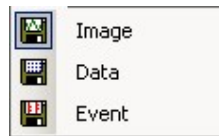

Figure 86: Graph Save Options
- Save Graph applies just to the data that is displayed on-screen in the graph. – This exports the Graph data as an image file and/or Data & Events in text files. (see Figure 86). This uses the Save icon on the Graph panel